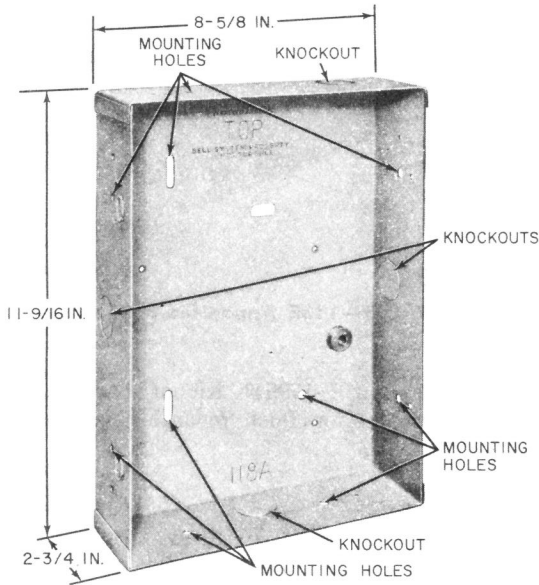

Fig. 7—118A Apparatus Box
- Add Fig. 7
118A Apparatus Box (Fig. 7).
- (c) Mounting holes are provided on the top, bottom, sides and back of the apparatus box (Fig. 7).